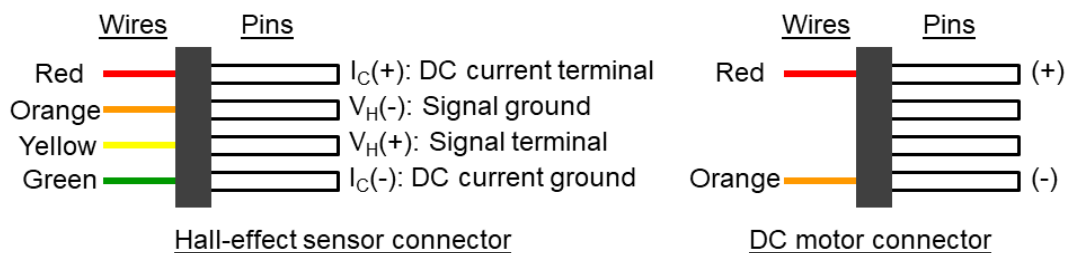

Fig. 4.3: Connectors and pins for the sensor and the motor used in the set-up
FYI: The terminals of the module are arranged in separate connectors as shown in Fig. 4.3. For the sensor connector,  $V_H(-)$  and  $I_C(-)$  go to the ground. (These connector pins are arranged so that they fit the holes of the breadboard without any hole between the pins.)
- 1) The Hall-effect sensor needs a constant, bias DC current for its operation. For the particular sensor used, establish a 10-mA current (using a 1-kΩ resistor) flowing from the terminal  $I_C(+)$  to the ground ( $I_C(-)$ ) – make sure the polarities are correct (Fig. 4.3).